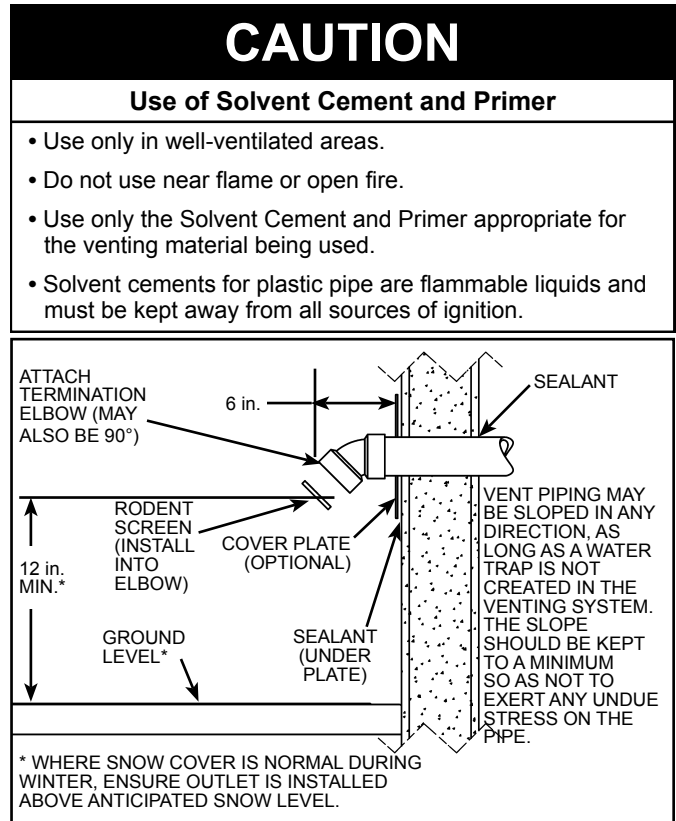
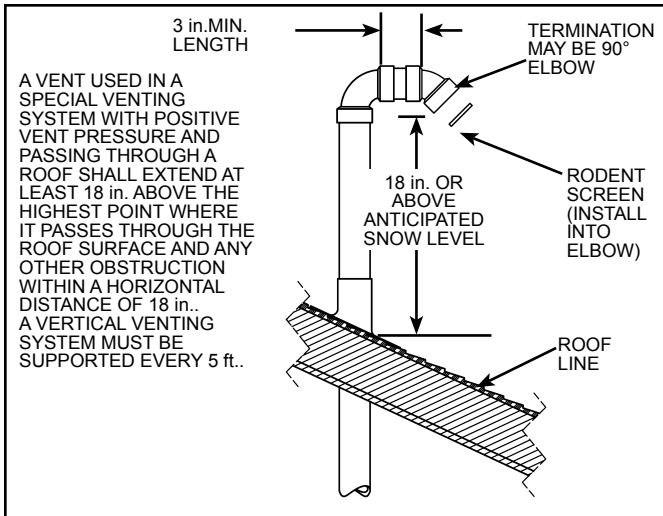
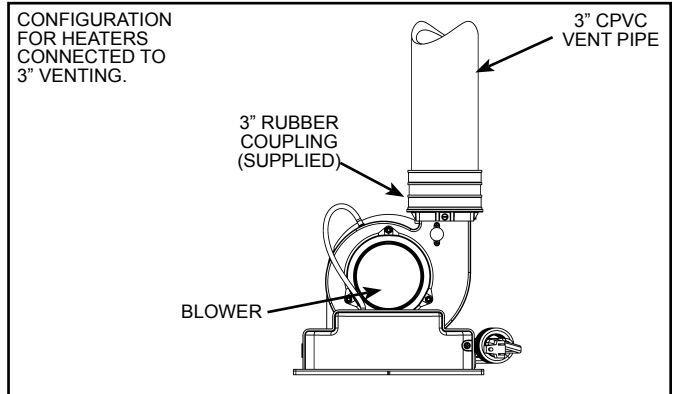
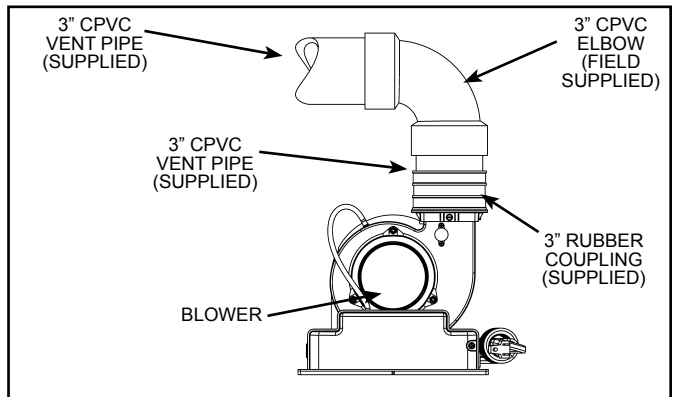

Figure 35
Figure 37
Figure 38
Figure 40
This heater is designed to exhaust the products of combustion (flue gases) to the outdoors using a sealed piping system. Table 2 lists the allowable vent materials and sizing information. Figure 34 shows the general venting layout while Figure 35 thru Figure 37 show various end termination details and clearances. Connection of the venting piping to the blower is shown in Figure 38 thru Figure 40.
9. Insert the vent piping through this hole and secure into position. Connect the vent pipe to the end termination elbow as shown in Figure 35 thru Figure 37.
1. The CPVC vent piping connects into the rubber coupling located on the top of the blower assembly. This coupling includes gear clamps to connect the venting to the blower. These connections must be properly seated and tightened to prevent the leakage of flue gases into the area. See Figure 38 thru Figure 40.
6. If the outlet vent pipe is to be turned horizontally directly off the blower, a 3 in. long section of CPVC pipe may be cut from the 5 ft. (supplied) section of 3" Schedule 40 CPVC vent pipe. This is to be used to connect the CPVC outlet vent pipe elbow to the water heater (see Figure 40). This elbow SHALL be used in equivalent length calculations but does NOT contribute to the first 5 ft. of the outlet vent system (see "Venting").